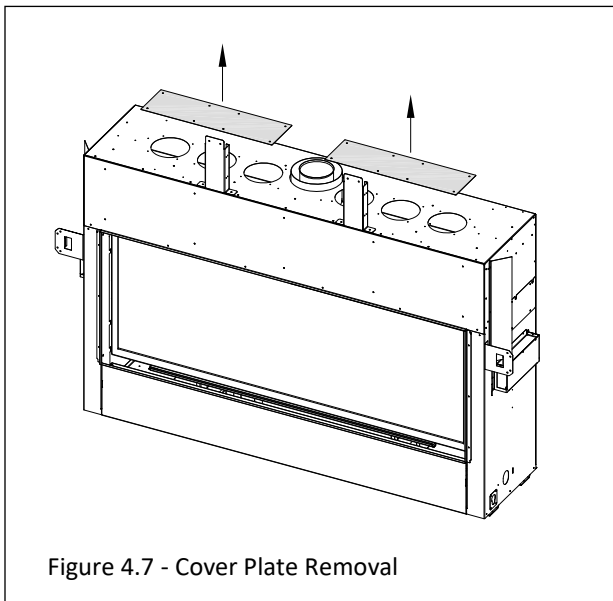

Figure 4.7 - Cover Plate Removal
1. Remove the (16) sheet metal screws that secure the (2) cover plates at the top of the fireplace shown in Figure 4.7. Discard these two cover plates. Save the sheet metal screws for the next step.